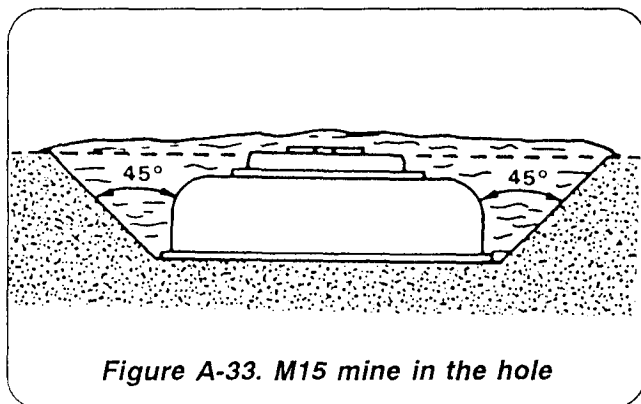

Figure A-33. M15 mine in the hole
- Dig the sides of the hole at a 45-degree angle to prevent vehicles from bridging the mine (Figure A-33).